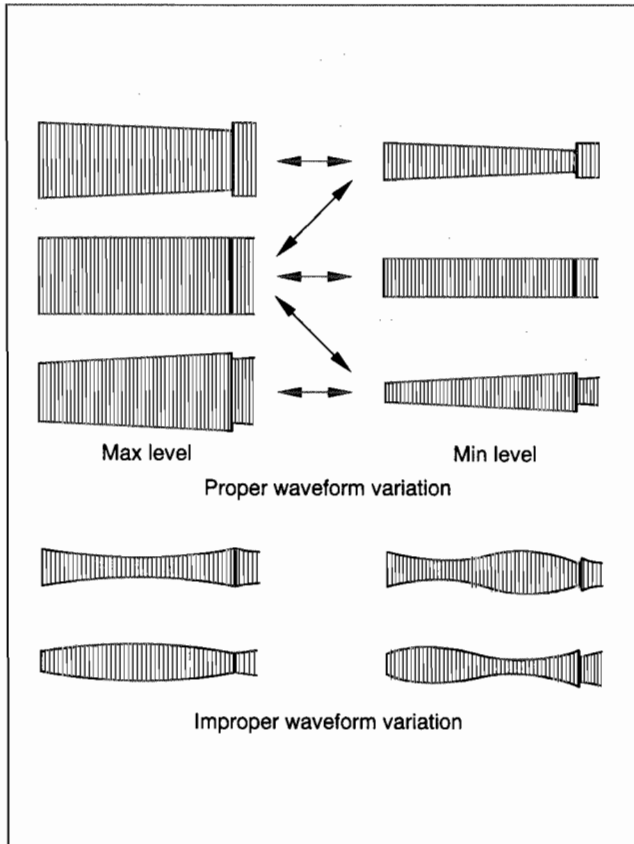

Fig. 2-3-1
- (1) Connect the oscilloscope to TP106(V. PB FM) of the main board assembly and to TP111(D.F.F) of the main board assembly for external sync connection.
- (2) Playing the alignment tape MHPE, observe the FM waveform.
- (3) Press the channel buttons (▲, ▼) simultaneously during playback to enter the manual tracking mode. (This also brings tracking to the centre.)
- (4) Make sure that there is no significant level drop of the FM waveform caused by the tracking operation, with its generally parallel and linear variation ensured. Perform the following adjustments when required. (See Fig.2-3-1.)